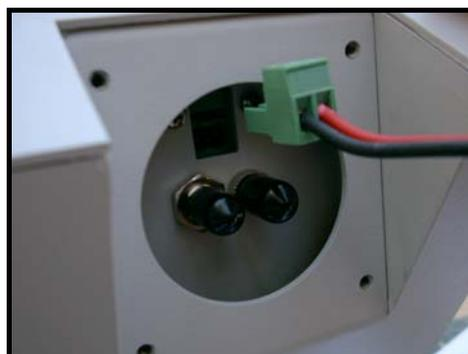

Figure 27: Insertion of the Terminal Block
- d. Plug the terminal block back into the green socket in the TereScope 1 as shown in *Figure 27*.